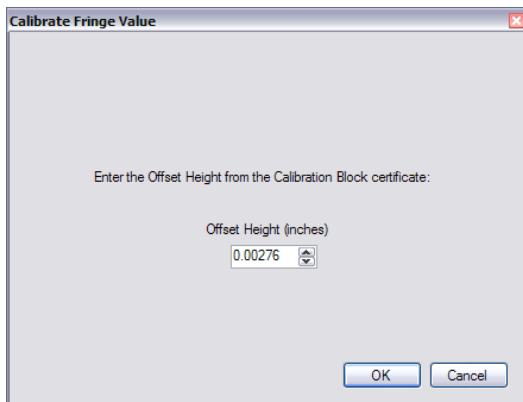
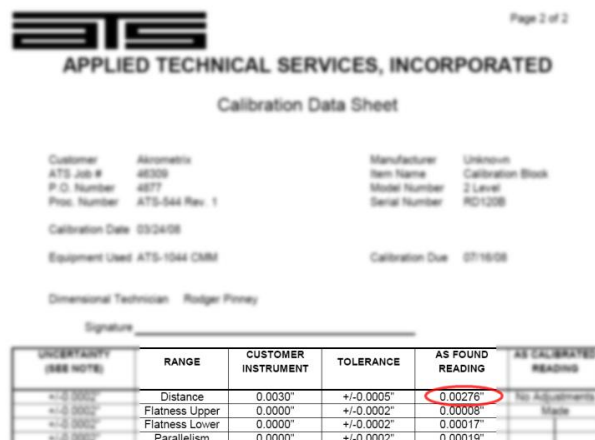
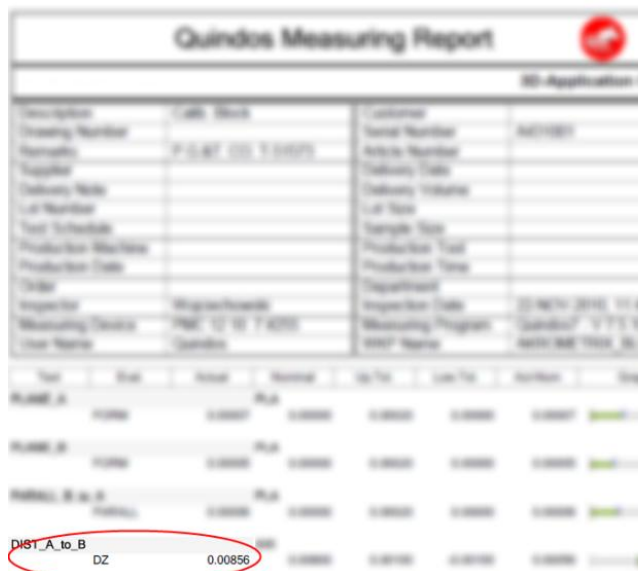

Figure 2.16 Offset Value Dialog
Figure 2.17 Offset Value from Certificate (ATS)
Figure 2.18 Offset Value from Certificate (Quindos)
- Enter the calibration offset value in the Calibrate Fringe Value dialog box that pops up and click OK. The calibration offset value for the block is on the Calibration Certificate provided with each block. Please note that the relevant number will either be listed as "Distance" or "DIST_A_to_B" depending on what independent lab was used to calibrate the block. Please see **Figure 2.16**, **Figure 2.17**, and **Figure 2.18**.